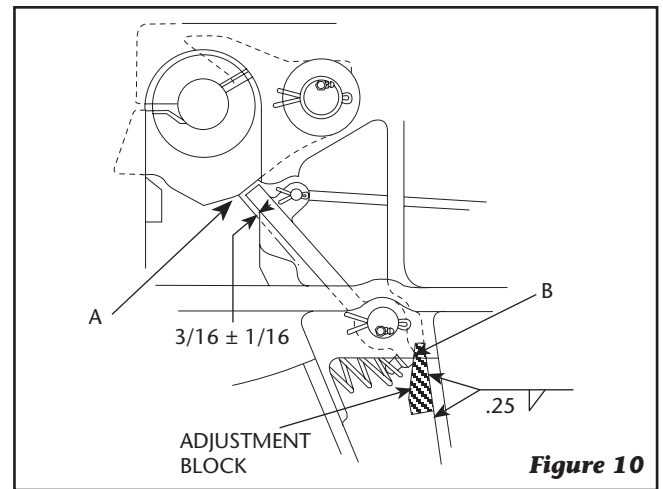

Figure 10
9. Coat the lock pin hole in the swinging lock (6) with Never-Seez® (supplied with kit). **This is VITAL. DO NOT USE** any substitute lubricant.
10. **Before installing the swinging lock (6)**, you must place the secondary lock (10) into its approximate location in the casting (see *Figure 10*).
11. Place the swinging lock (6) into position compressing spring (7). **Note:** The lock pin
- C.** Move the secondary lock handle to the closed position. Check the location of the end of the secondary lock in relation to the swinging lock. It should be 3/16" (0.188") ± 1/16" (0.06) from point (A) on the swinging lock (see **Figure 10**) when the secondary lock is resting against the casting at point (B).
- D.** If the secondary lock is not in the current position, install a secondary lock adjustment block (36) as shown in **Figure 10**. Move the adjustment block until proper adjustment is achieved, then weld the adjustment block in position, as shown in **Figure 10**. After welding, check the dimension and for proper operation of the secondary lock.